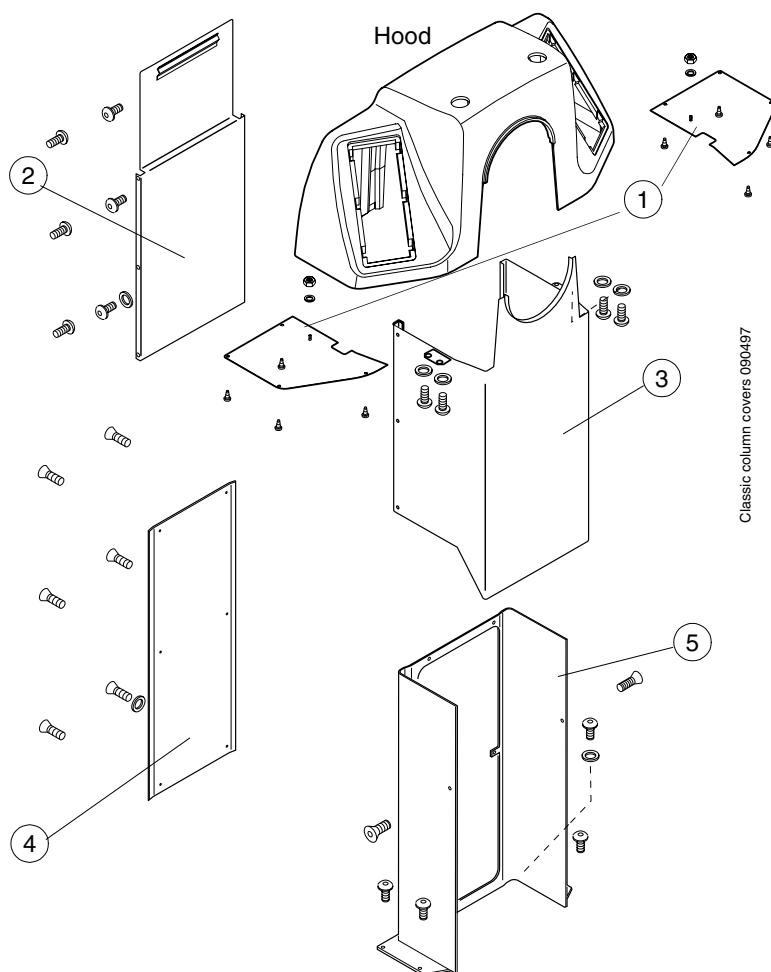

Figure H.4
### Hood bottom cover plates (2 pcs) (Fig. H.4, 1)
**Telescopic column rear panel (Fig. H.4, 2)**
**Telescopic column front cover (Fig. H.4, 3)**
**1.3 Stationary column covers****Stationary column rear panel (Fig. H.4, 4)**
**Stationary column rear cover (Fig. H.4, 5)**